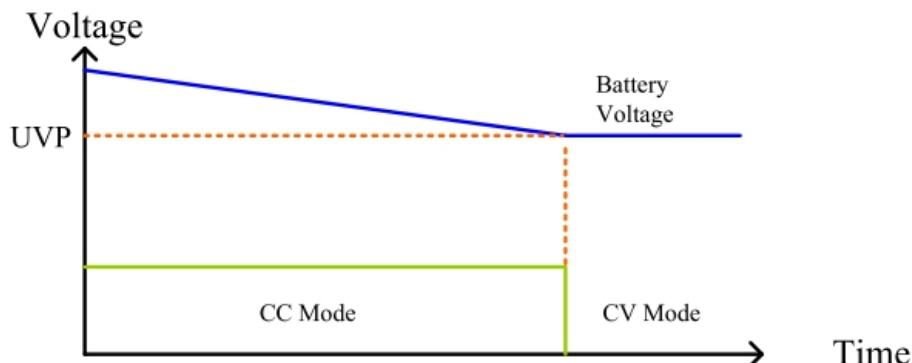

Fig 5-17 TYPE 2 Battery Discharge Figure
When testing loads on of Constant current (CC) or Constant Power (CP) mode, battery voltage is less than UVP Setting values, Constant current (CC) mode auto change to Constant voltage (CV) mode as Fig 5-17 shows.